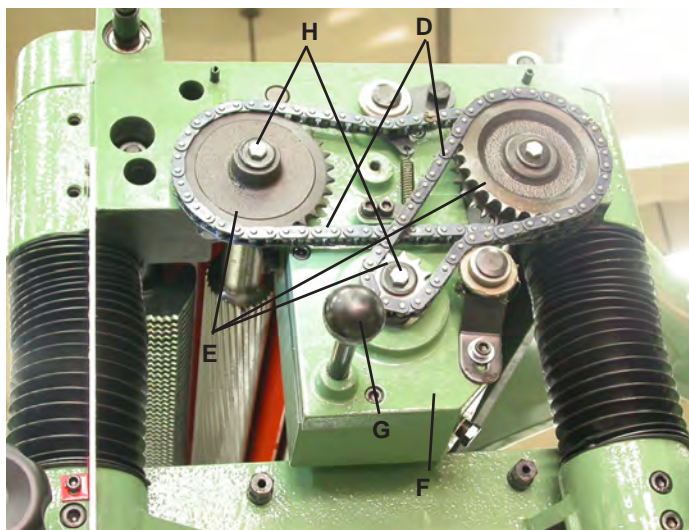
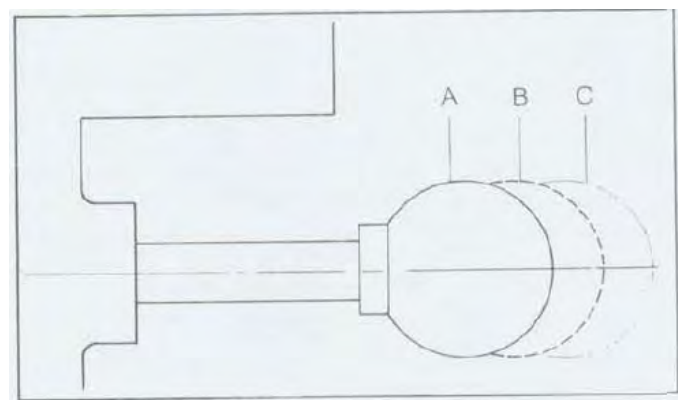

Fig. 33
Fig. 34
Your machine is equipped with a spiral, serrated infeed roller and a solid steel outfeed roller. When the feed rollers are engaged, they turn to feed the stock. The feed rollers slow automatically when the machine is under heavy load for best planing under all conditions. The feed rollers are driven by chains (D) Fig. 33 and the sprockets (E), which takes power directly from the cutterhead through the oil bath gear box (F) Fig. 33.
There are two feed speeds in the gear box by using the shift lever (G) Fig. 33 to pull out or push in, and the feed speed range as shown in Fig. 34.
Shift gears handle, shown as Fig. 34. There are three kinds of operations of gear box by using shaft handle to pull or push. In the position A feed roll is operating on rate 20 FPM. Shown as Fig. 16. In the position 13 feed roll is operating on rate 0.